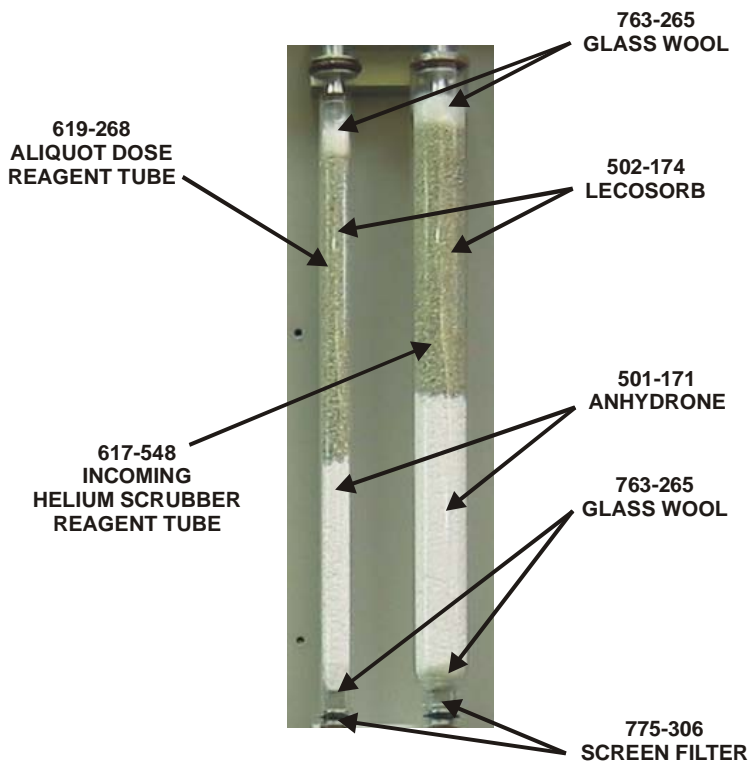

Figure 6-22
10. Remove the female jaw, Figure 6-22, page 6-37. Clean the jaw and the inside of loading head.
1. Insert the female jaw into the male jaw, Figure 6-22, page 6-37.